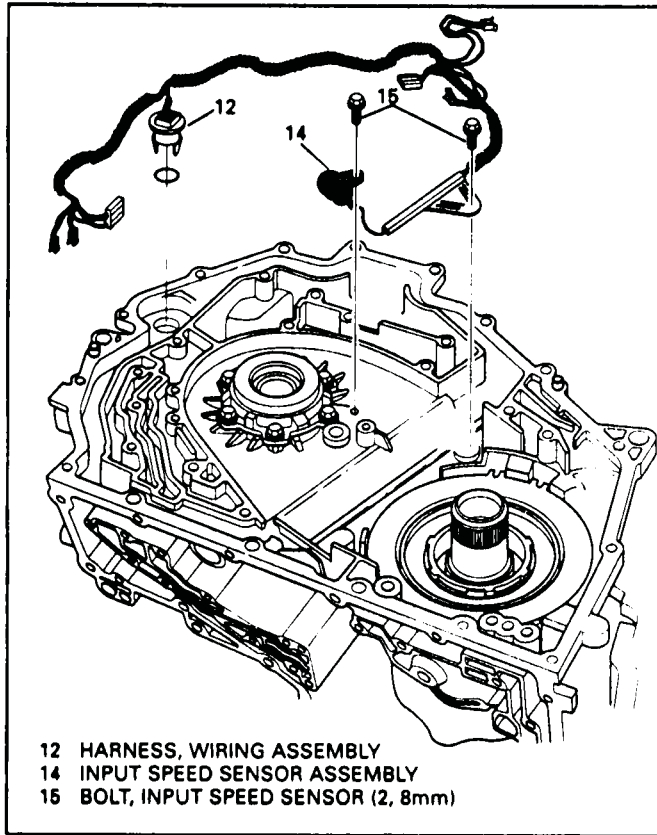

Figure 95
17. Install case connector into the case, and ensure a snap fit. Notch goes toward inside of case (Figure 95).
18. Insert the remainder of wire harness into the valleys of case housing, as shown in Figure 95.
19. Install the input speed sensor and bolt as shown in Figure 95.
20. Install speed sensor wiring harness bracket to center of case, as shown in Figure 95, torque bolts to 9 ft.lb.